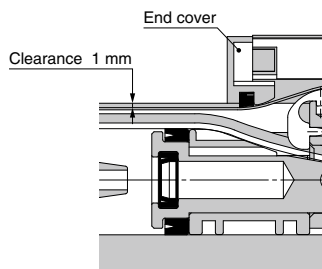

Fig. 3
- Attach the double round parallel key, and then attach the end cover, spacer, and stopper with holding bolts. (Refer to Table 2 for the end cover tightening torque.) (When attaching the end cover, be sure to leave about 1 mm clearance between the bottom of the end cover and the top surface of the cylinder tube.) (Refer to Fig. 3.)